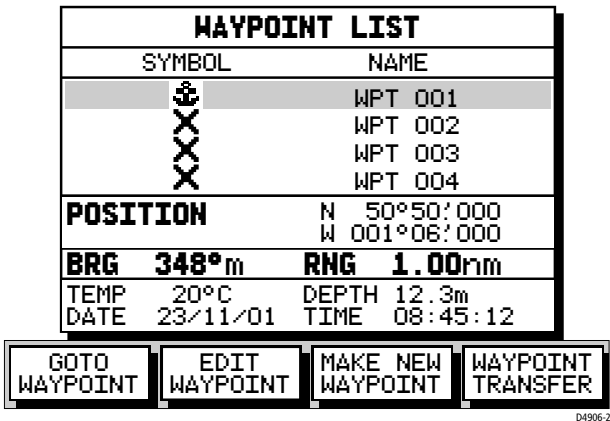

Figure 3-22: Waypoint List and Soft Keys
1. Press **MARK**, followed by the **WAYPOINT LIST** soft key; the Waypoint List and associated soft keys are displayed as shown in *Figure 3-22*:
1. Press **MARK**, followed by the WAYPOINT LIST soft key; the Waypoint List and associated soft keys are displayed as shown previously (*Figure 3-22*):
1. Press **MARK**, followed by the WAYPOINT LIST soft key. The Waypoint List and associated soft keys are displayed, see *Figure 3-22*.